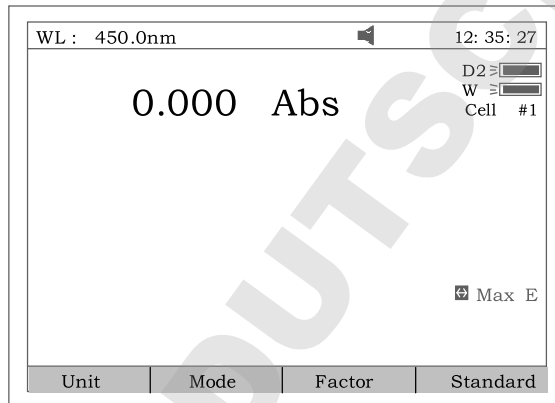

Fig 11
- ✧ Press **【ENTER】** to change the wavelength from 656.1nm to 450.0nm, and then blank; After blanking, the screen displays as Fig 11.